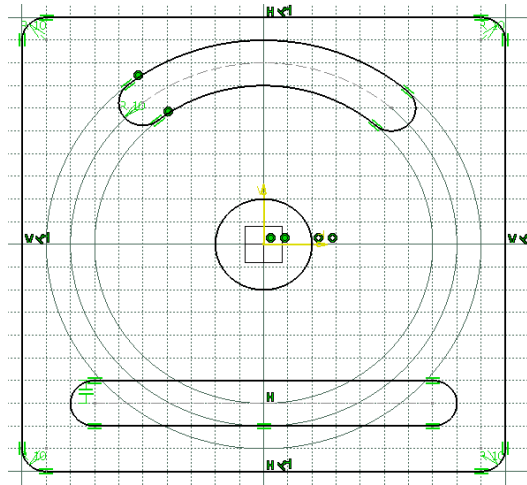

Figure 3-48 The final sketch
11. Press the TAB key, set the value in the **Radius** edit box to **10**, and press the ENTER key. The final sketch is shown in Figure 3-48.